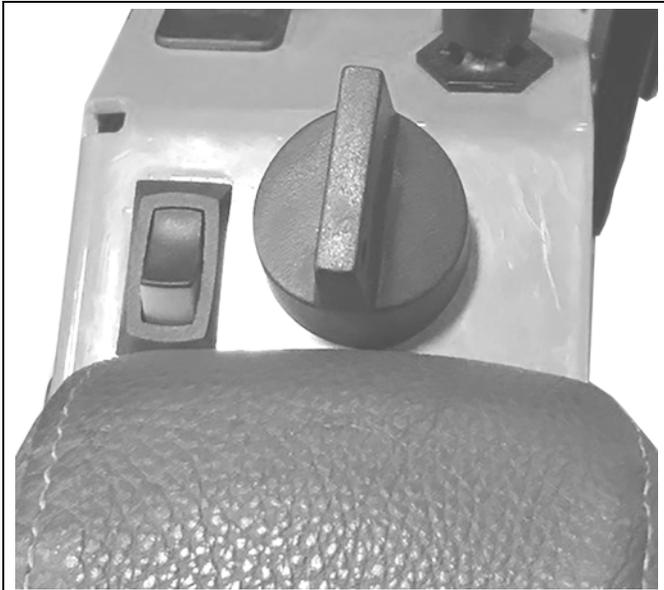

Figure 15
13. Press switch firmly into hole until it snaps into position. Ensure that red side of rocker in switch faces to the rear. See Figure 15.